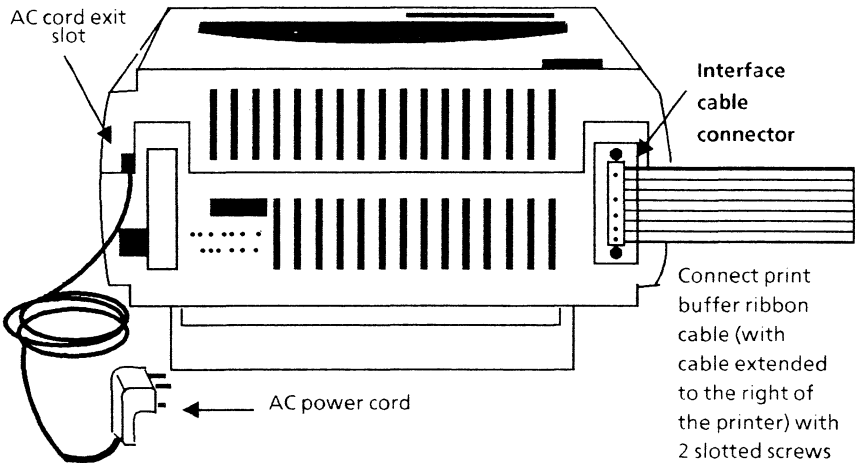

Figure 4-7 Local draft printer (rear view)
1. Connect (with the thumbscrews supplied with the printer) the end of the ribbon cable (attached to the print buffer) to the interface connector located at the left rear of the printer (Figure 4-7).